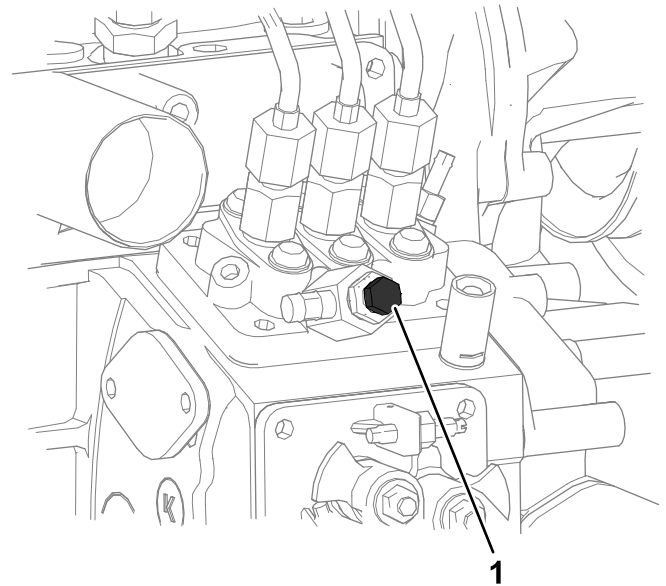

Figure 90
4. Open the air-bleed screw on the fuel-injection pump (Figure 90).